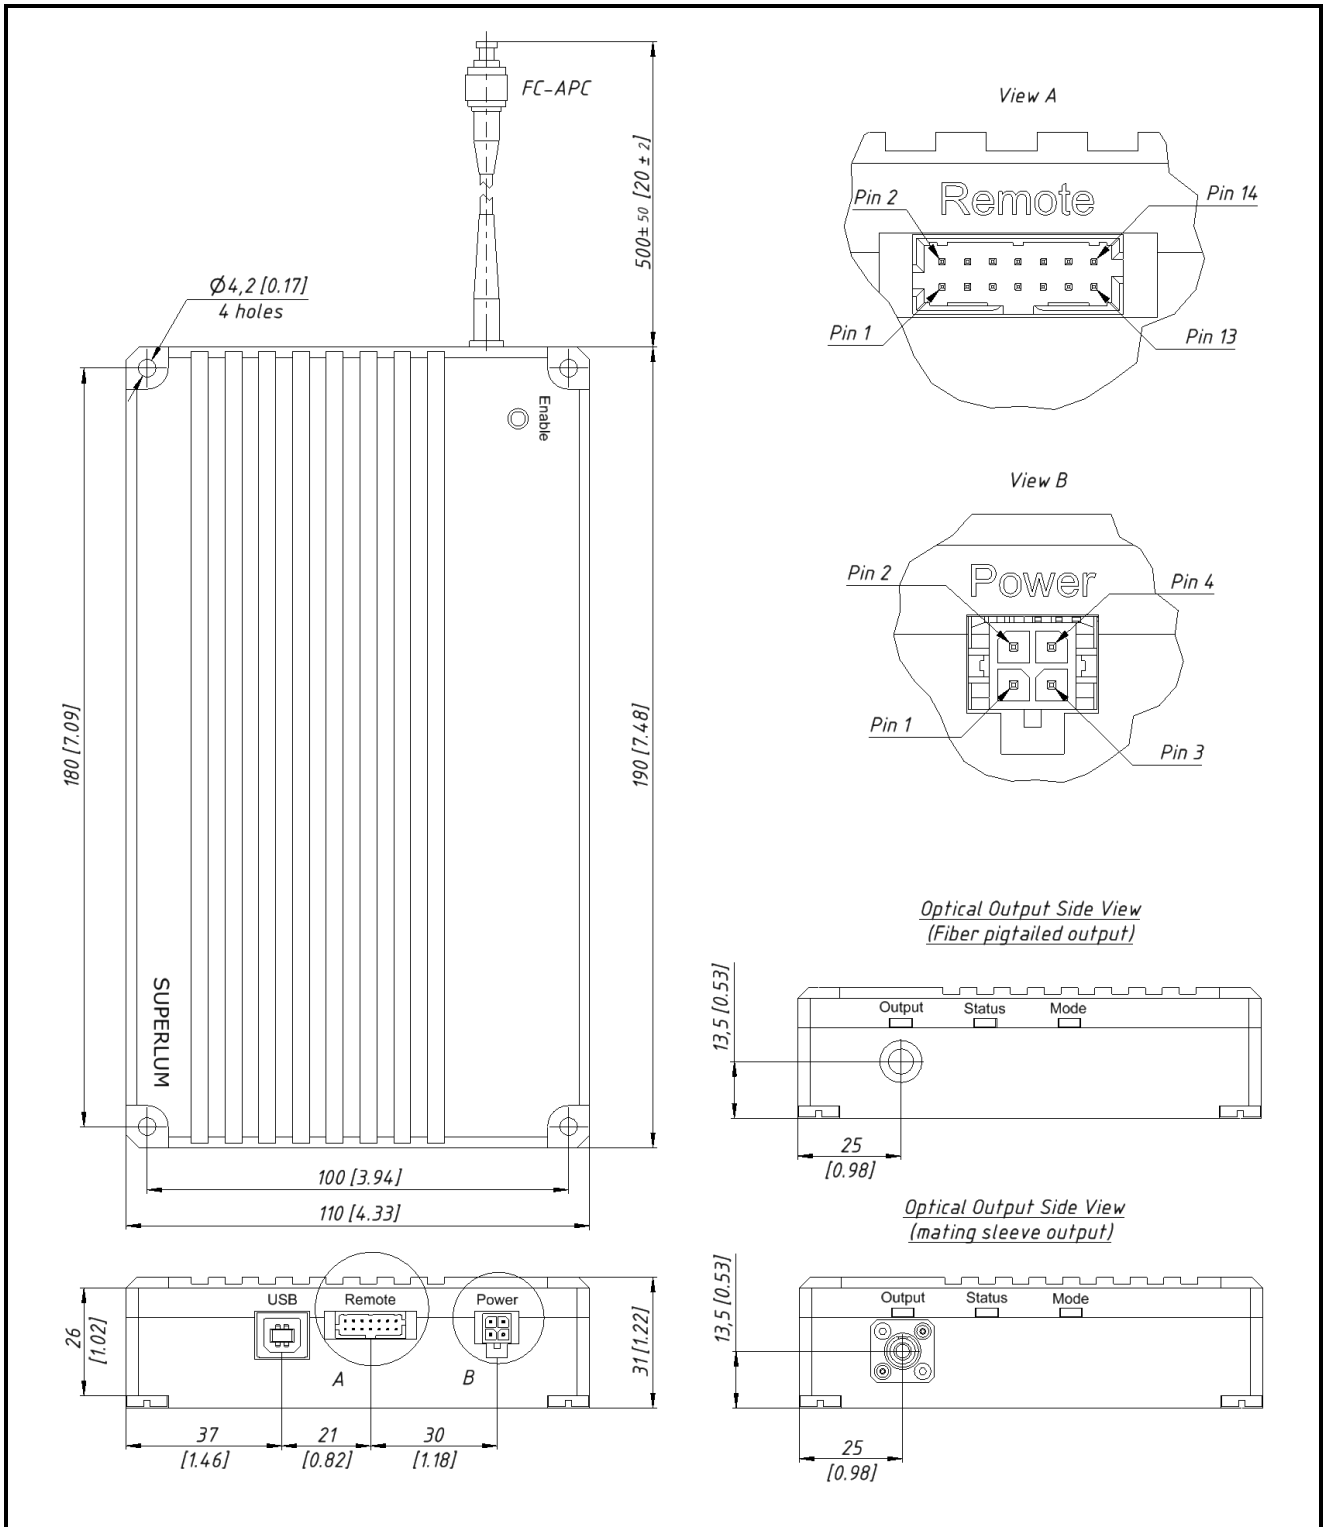

Figure 1. Drawings of Light Source. Dimensions are in millimeters [inches]
Temperature control is an important factor when considering where and how you will integrate this lightsource to your application. Ideally in order to ensure effective heat dissipation the Light Source should be mounted to an appropriate heatsink in any spatial orientation with 25mm of free space around the sides and cover to allow air circulation. The Lightsource should be anchored to a flat plate heatsink large enough to accommodate the entire footprint of the lightsource base, (see section 1.4 above; Figure 1. Drawing of Light Source) using the Four (4) anchoring holes. Mounting and using without a heatsink is possible, but this approach will reduce the operating temperature range. Forced air circulation system around the enclosure is in this case strongly recommended.